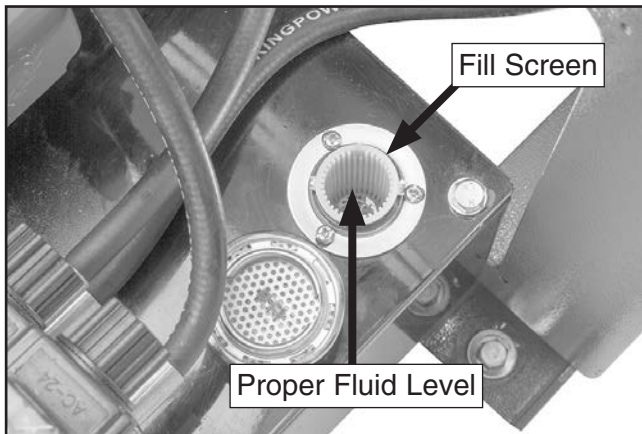

Figure 85. Example of proper fluid level.
6. Check fluid level. Fluid should just cover the bottom of the fill screen (see **Figure 85**).
6. Clean fill cap and fill screen (see **Figure 85**) with mineral spirits and allow to air dry.